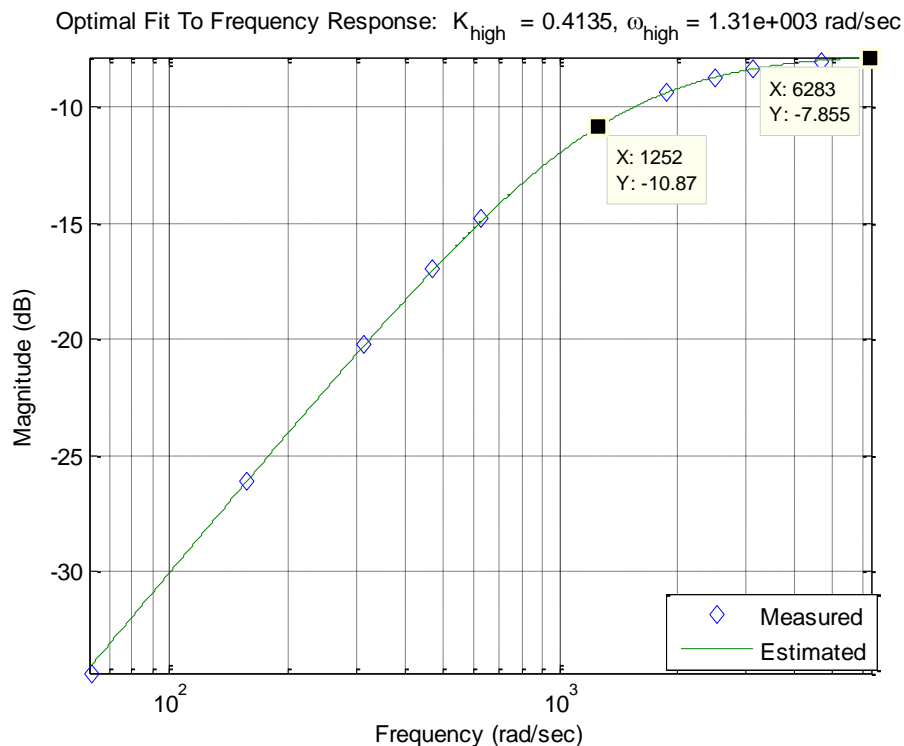

Figure 10: Highpass filter with a cutoff frequency of approximately 1.31 krad/s (208.5 Hz) and gain of -7.855 dB (0.405).
6. In the MATLAB command window type **model\_high(data, 0.4, 2\*pi\*200);** You should get results similar to that shown in Figure 10. Click on the Datatip icon (just below Desktop) so identify points on the graph. Once you have identified the maximum value, you may have to use a right click and create a new data tip(it usually helps if you right click when you are on a current datatip). You can fine tune your datatip locations by using the cursor keys on your keyboard. Your data points should be from the peak value to a value 3 dB lower.